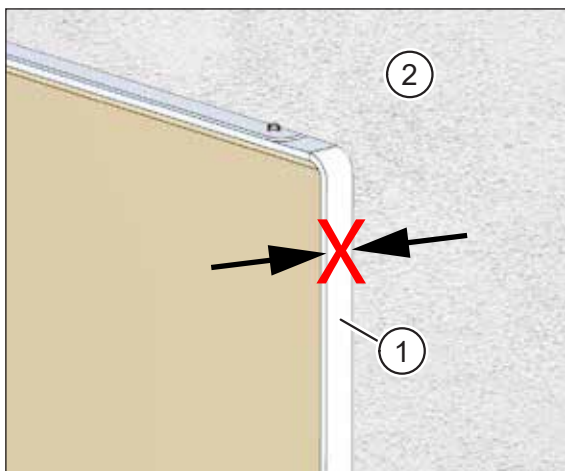

Fig. 32: Plastering trim protrudes over plaster
- The plastering trim (item 1 in Fig. 32) protrudes above the plaster (item 2 in Fig. 32).